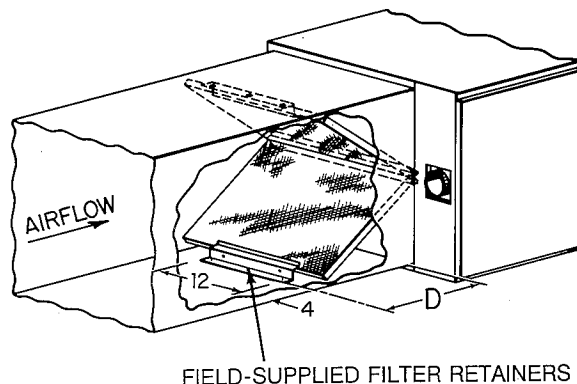
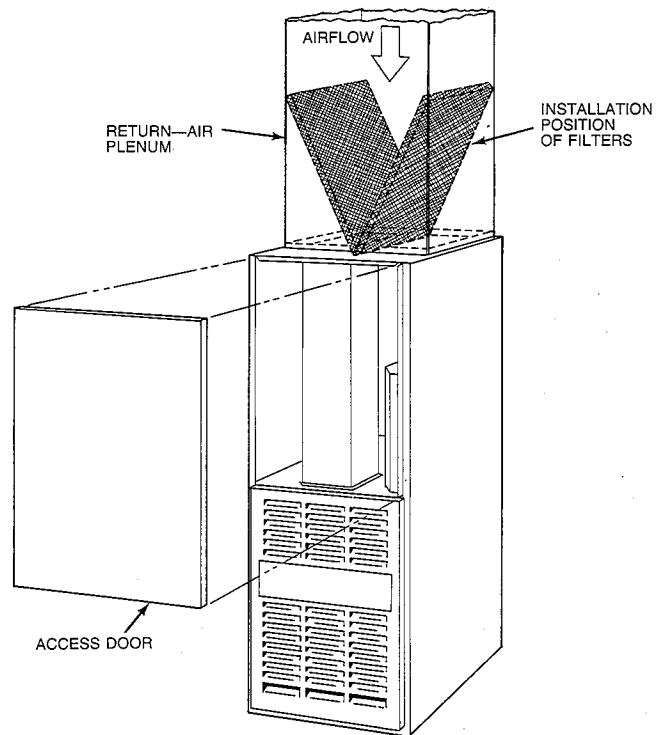

Fig. 8—Horizontal Filter Arrangement
Fig. 9—Position of Filters
- a. Install field-supplied filter retainers as indicated in Fig. 8 and Table 4 before connecting return-air duct to furnace.
The two factory-supplied filters are shipped in the blower compartment. After the return-air duct has been connected to the furnace, install the filters in a V-formation inside the return-air plenum. See Fig. 8 and Table 4 for horizontal applications. Horizontal filter retainers must be field-supplied. See Fig. 9 for downflow applications.